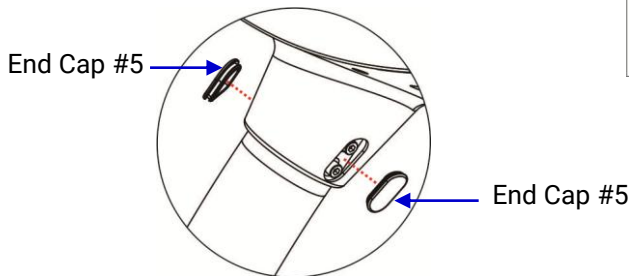

Fig 2.5-4B
- 3) Put (4) **End Caps #5** into console lower cover. (Fig2.5-4B)